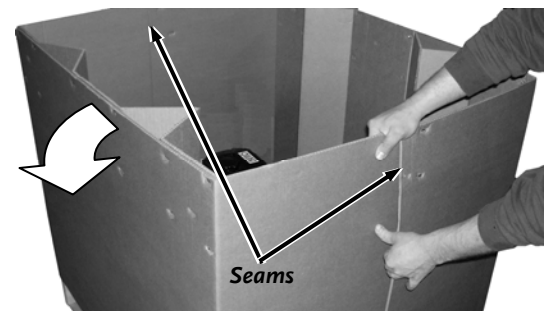

Figure 2
3. Wear Gloves as you open the ends of the Shipping Box by pulling it apart at the seams and then fold down the sides (**Figure 2**). The staples are sharp so use caution.